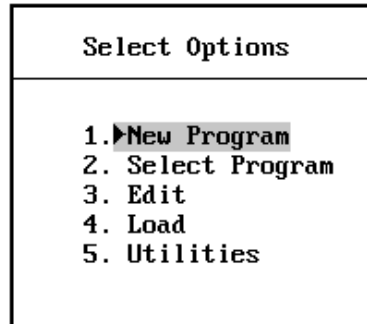

Figure 3-3, Creating a New Program
1. From **Menu E, Select Options** Menu, highlight **New Program**, and press **ENTER**. Refer to **Figure 3-3**.